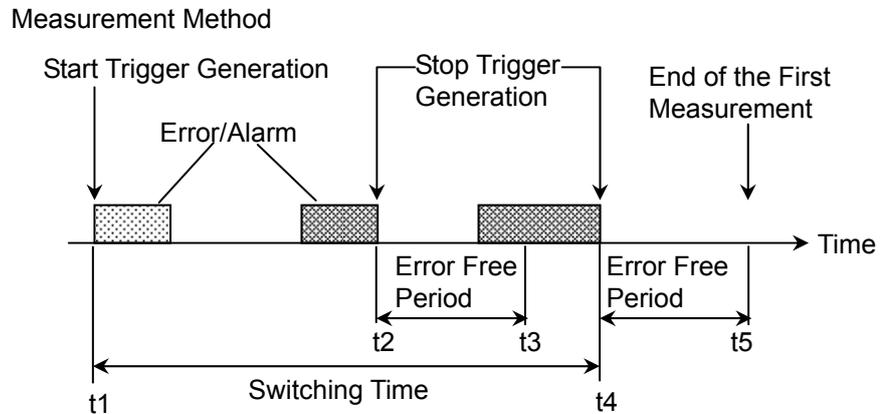

Figure 5.5.12-2 Measurement Method of Switching Time
3. After stop trigger is generated, if the stop trigger is not regenerated within the time specified by Error Free Period, the switching time, which was recorded at the above procedure 2 is regarded as the measurement result. The time from t1 to t2 in Figure 5.5.12-2 becomes the measurement result.